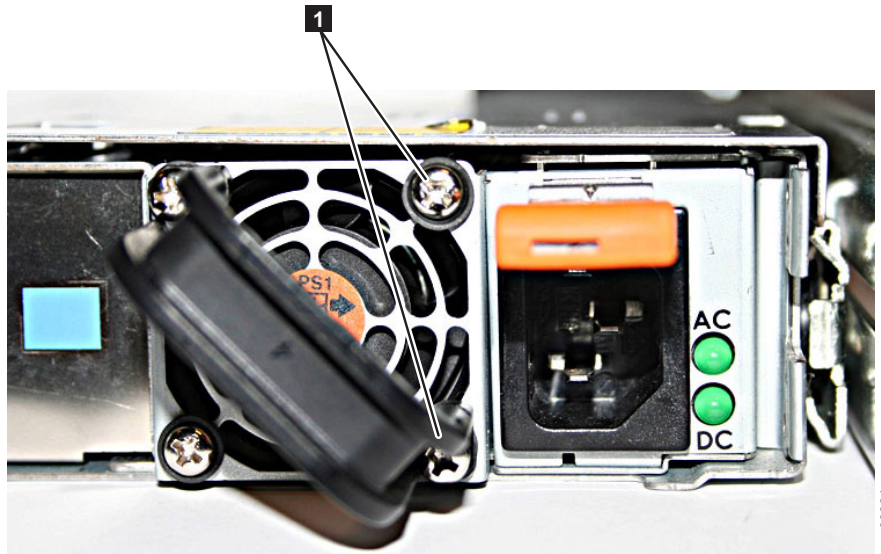

Figure 105. The SAN Volume Controller 2145-8G4 before you attach the cable retention bracket
1. With the node powered off and the power cable removed, loosen and remove the two screws **1** on the right side of the rear plate that covers the power supply fan unit, as shown in Figure 105 on page 434.